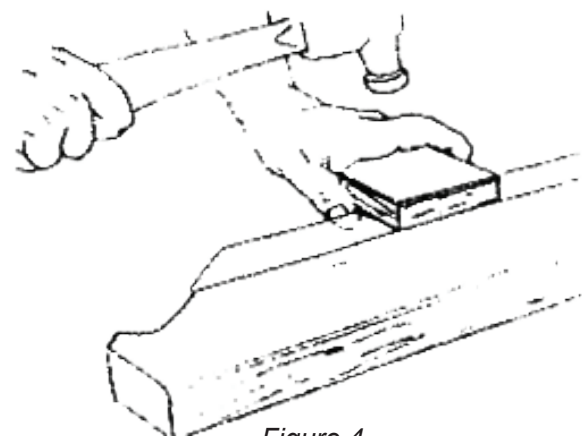

Figure 4
6. Tap the entire length of the featherstrip flush with the top of rail at the rear side of the featherstrip (Figure 4). Never try to tap the feather strip flush with just a hammer as you will dent the rail surface behind the featherstrip.